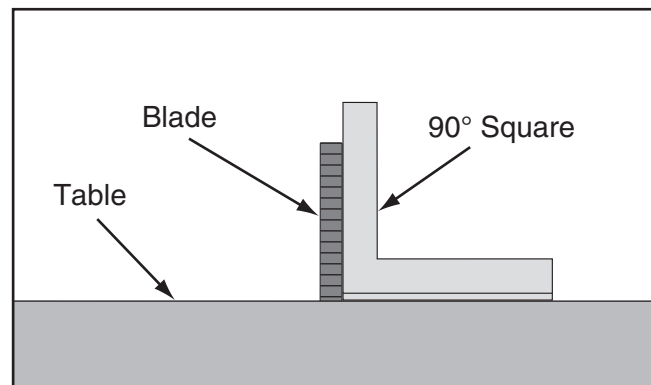

Figure 79. Checking blade at 90°.
3. Place 90° square against table and blade so it contacts blade evenly from bottom to top, as shown in **Figure 79**. Make sure blade tooth does not obstruct placement of square.